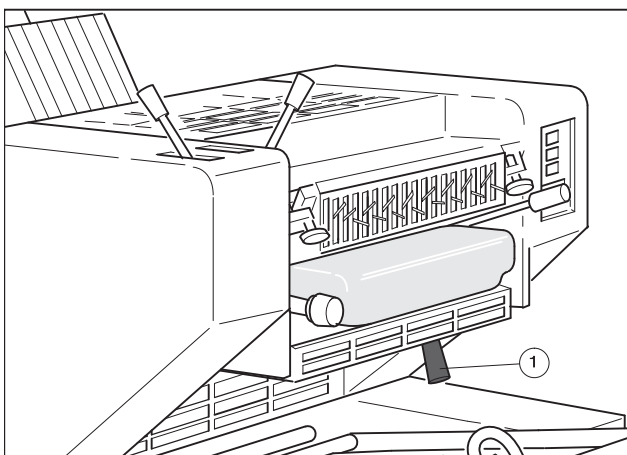

Fig. 50 Connecting the dampening system and the inking unit
1. **For inking up**, connect the dampening system with the inking unit; move lever (Fig. 50/1) upwards.